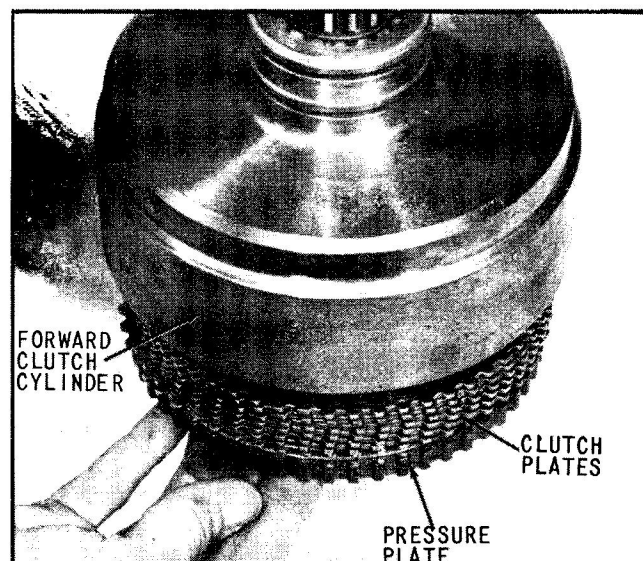

Fig. 22 Catching Clutch Plates
8. Invert assembly and catch clutch plates as they slide from forward clutch cylinder. It is sometimes necessary to tap the parts to cause plates to slide from clutch cylinder, (Fig. 22).